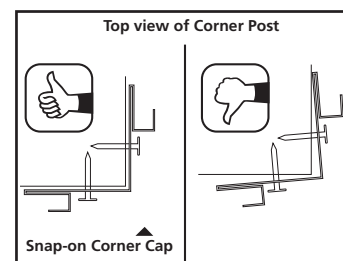

Figure 3.1.1
- ii. Make sure the Corner Base is fastened securely to the building and not twisted. (Figure 3.1.1)